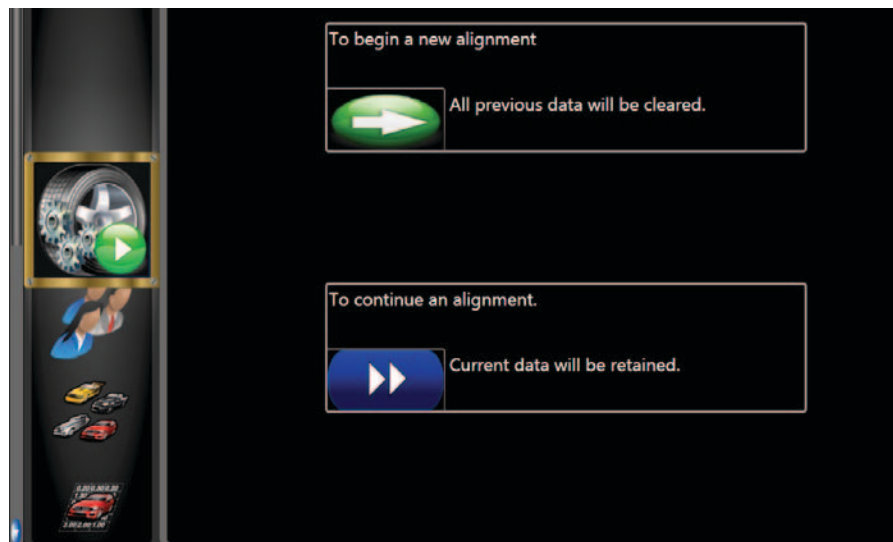

Figure 4
- The next screen to appear will be the “Begin Alignment” screen. Select “To continue an alignment” to use the information associated with the work order. See Figure 4.